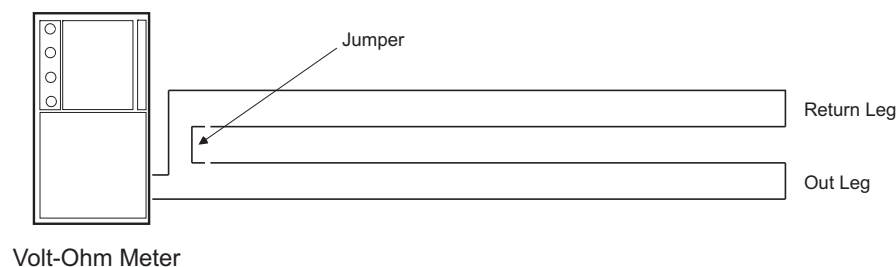

Figure 2-27. Measuring CLASS-A SLC Wiring Resistance
1. Short the “Out” and “Return” legs as shown in Figure 2-27. Measure the resistance using the other two terminating points at the control unit